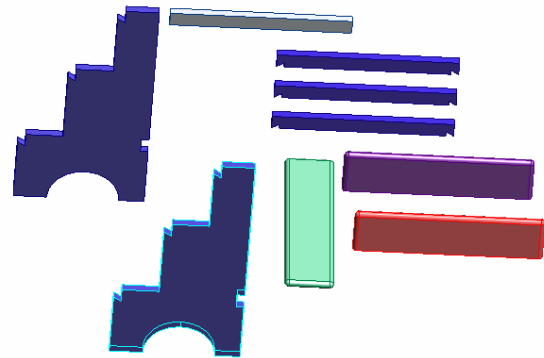

Figure 15. All Components Added ready for Assembly.
32. In a similar fashion, Add Component parts until you have all the parts necessary to assemble the Step Stool. Figure 15 shows all the parts ready for assembly. Your parts may not be in the same place as the illustration but each can be selected (part selection) and moved. Move each duplicate part when it is added so they will not overlay each other.